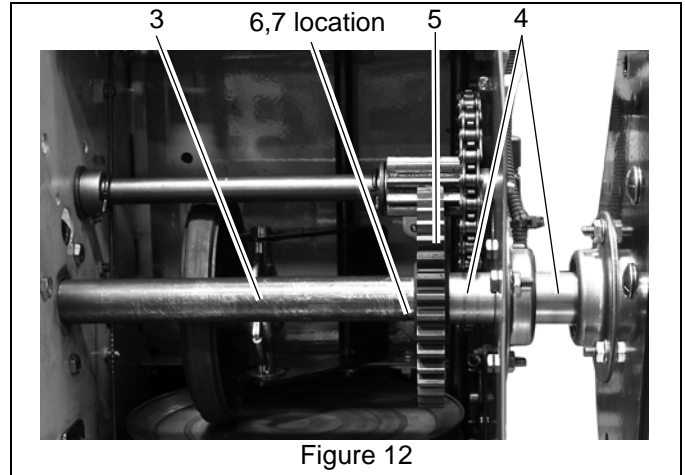

Figure 12
15. Slide track drive axle (item 3) through flange bearing (item 13) attached to right side of frame. Install spacer (item 4) between frame flange bearing (item 13) and track carriage assembly (item 2). Slide track drive axle (item 3) through track carriage assembly so that it is now fully supported. See Figure 12.
16. Install woodruff key (item 6) into groove in track drive axle (item 3). Align spur gear (item 5) key slot with installed woodruff key (item 6) and slide into place. See Figure 12.
17. Install roll pin (item 7) into track drive axle (item 3), locking spur gear (item 5) into place. Make sure roll pin (item 7) is centered in track drive shaft (item 3) and will not easily fall out. See Figure 12.